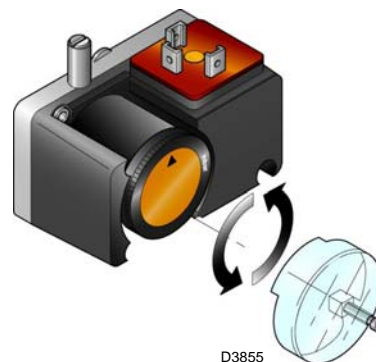

Fig. 29
- Adjust the minimum gas pressure switch (Fig. 29) to the start of the scale.
- adjust the minimum gas pressure switch (Fig. 29) on the gas train to the start of the scale;
Adjust the minimum gas pressure switch after performing all the other burner adjustments with the pressure switch set to the start of the scale (Fig. 29).